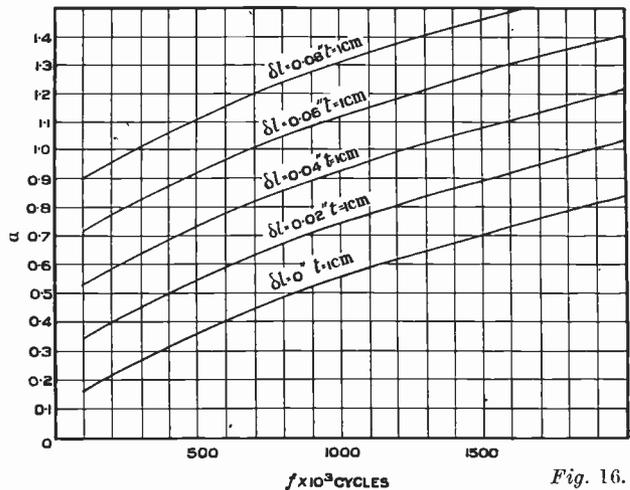

Fig. 16.
In Fig. 16 are shown values of "a" for different frequencies and different air gaps calculated from formulæ (34) and (35) with t equal to 1 cm. For values other than 1 cm the ordinates of the curves of Fig. 16 are to be multiplied directly by t.
From Figs. 16 and 17 we get the variation of  $K$  with frequency set out in Table I. :-